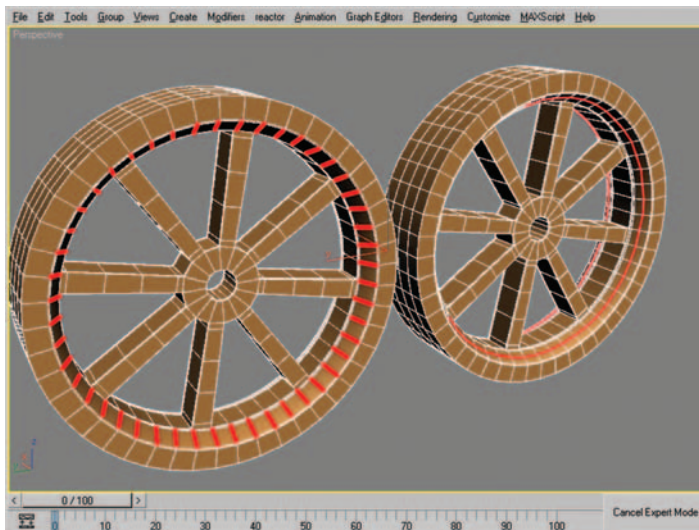

Figure 8.108 Edge-ring selections and resulting mesh after using Connect to create two new edge loops (one in front of the spokes, and one behind).
19. Select the edge-ring selection seen in Figure 8.108 (left) and use the Connect settings with one segment and all other values at 0 to create the mesh seen in Figure 8.108 (right). *Note: Although you can't see it in the screen capture, the same edge ring is selected on the other side of the spokes.*